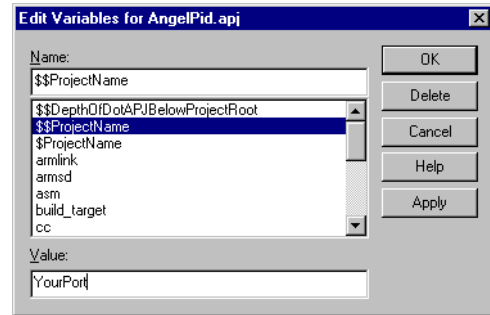

Figure 13-6 Edit variables
2. In your working copy of the Angel directory, select **Edit variables for AngelPid.apj** from the **Project** menu. The Edit Variable dialog is displayed (Figure 13-6).